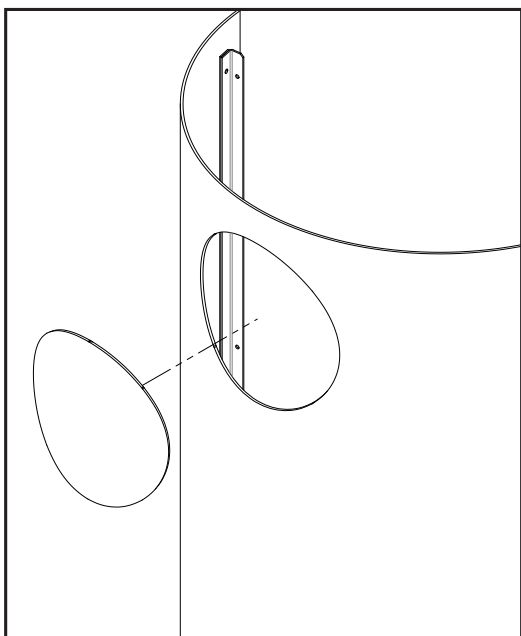

Figure 69: Rear Chassis Punchout
12. Remove the punchout from the rear chassis using a sizeable hammer (see Figure 69). Place a cloth down around the perimeter to prevent damage to the chassis in case you accidentally strike the painted surface.